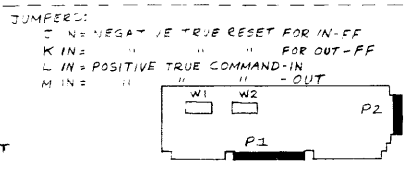

Figure 2
- 3.0 FUNCTIONAL DESCRIPTION. Refer to the block diagram (figure 1), schematic diagram (figure 2), component location diagram (figure 3), and parts lists (02640-60031) located in the appendix.